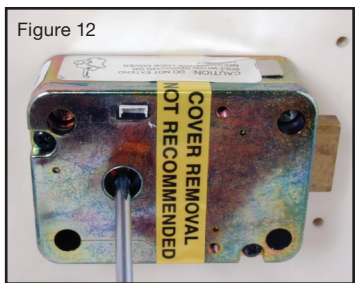

Figure 14
18. Position the spindle mounting clip (Figure 14) over the spindle in the center of the front of the dial. The raised tabs should be facing out, away from the container. (The concave side of the clip should be facing toward the container.) Slide the clip down the spindle until the clip stops against the center portion of the dial. Check to make sure the outward dial movement (away from the container) has been held to a minimum.